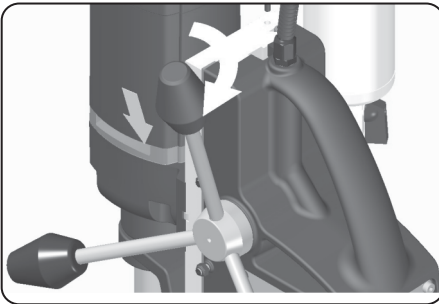

Fig. No. 1
- e) The drill's magnetic adhesion depends on the thickness of the work-piece, as shown in fig. No. 1, 1/2" (12mm) is the minimum thickness for safe operation.